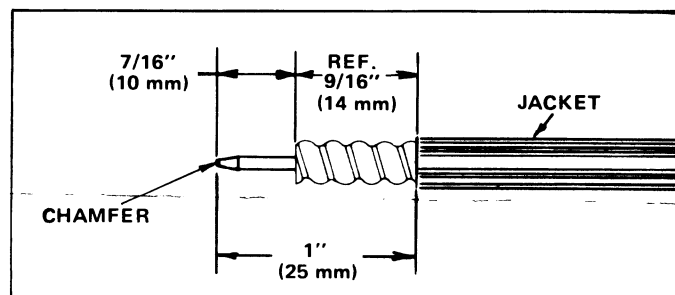

FIGURE 1
STEP 1. Cut cable as shown in Figure 1. Cable end must be square. Use straight-edged piece of paper to guide jacketing cut. Clean outer conductor with solvent. Cut outer conductor and foam. Be careful not to cut inner conductor. Trim foam with sharp knife. Use file to remove burrs. Chamfer end of inner conductor.